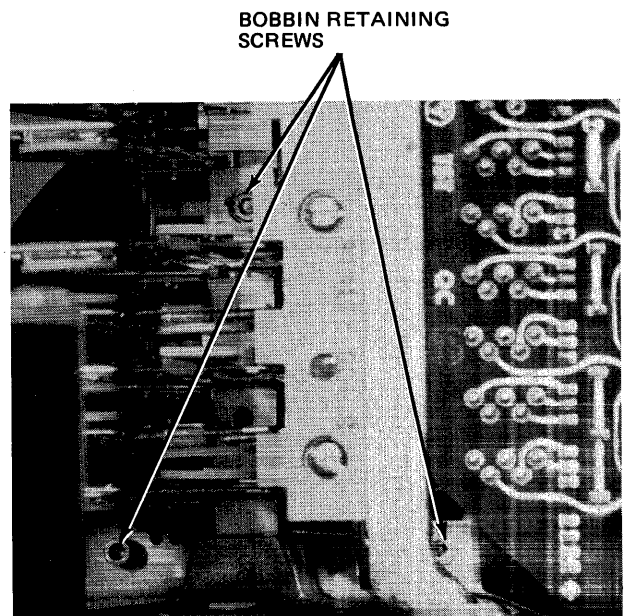

Figure 5-47. Bobbin Screws
- b. Remove three screws fastening bobbin to carriage (see Figure 5-47).